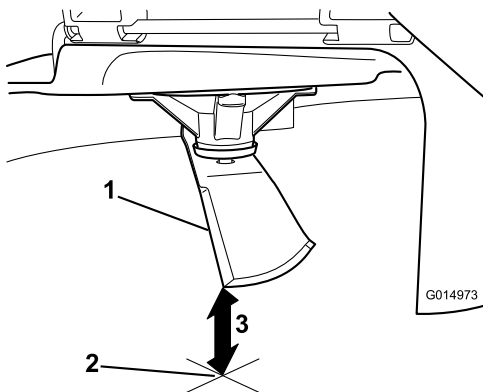

Figure 71
3. Measure from the tip of the blade to the flat surface (Figure 71).